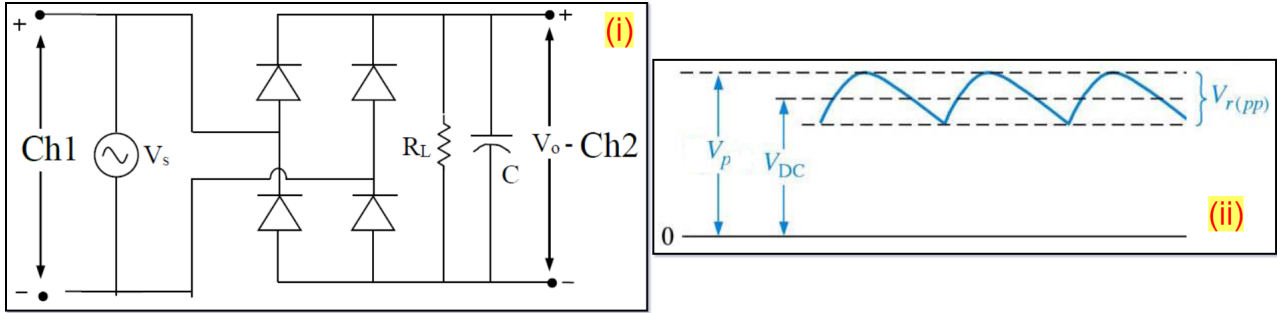

Figure 6: (i) Full-Wave Rectifier Circuit with Capacitor (ii) Output Waveform
1. Construct circuit of Figure 6 without the capacitor. Observe  $V_s$  and  $V_o$  separately on the oscilloscope [i.e use only one channel].